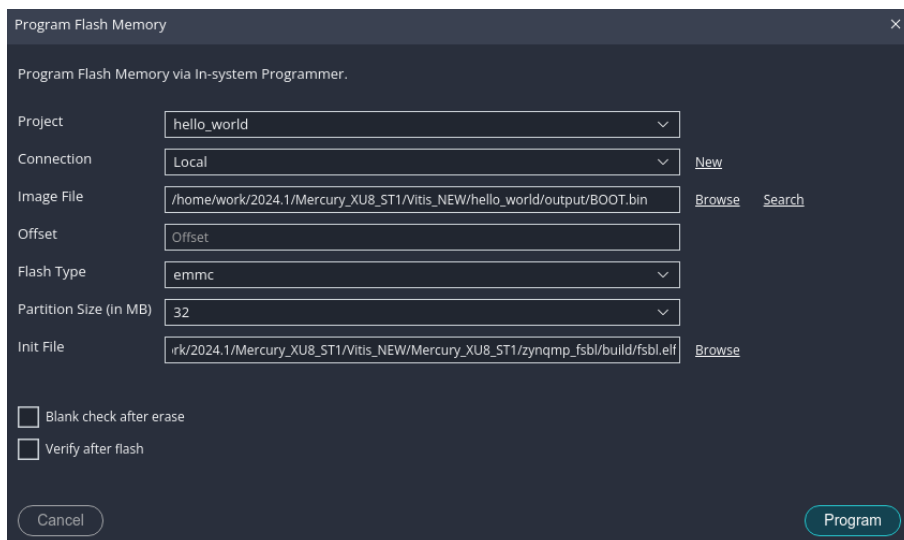

Figure 7: Vitis Program Flash Memory (eMMC)
6. Select **32** for the **Partition Size (in MB)**. Figure 7 is given for reference.